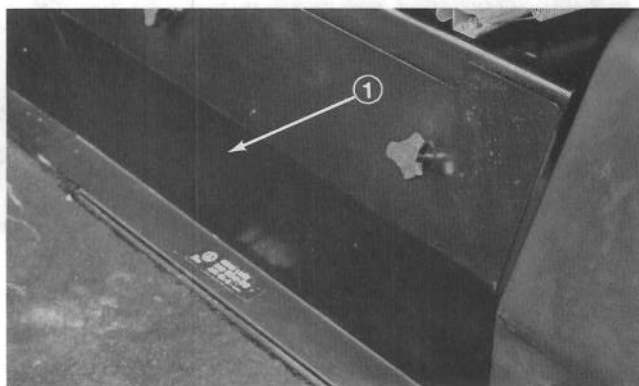

Figure 16
(Fig. 16 & 17)
2. Remove access panel (Fig. 16), in front of seat, to expose front axle / dipstick.